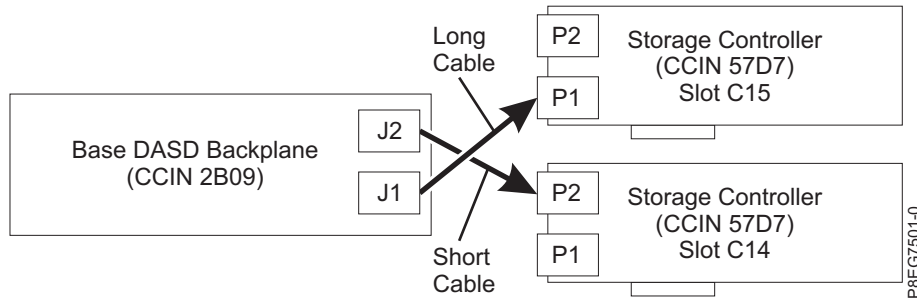

Figure 17. Reconnecting the SAS cable in a split-disk configuration
- If you have two PCIe3 x8 SAS RAID internal adapters (CCIN 57D7) (split disk feature), the short SAS cable connects the upper disk drive backplane connector (J2) to the P2 connector on the adapter in slot P1-C14. The long SAS cable connects the lower disk drive backplane connector (J1) to the P1 connector on the adapter in slot P1-C15. See Figure 17 on page 17.